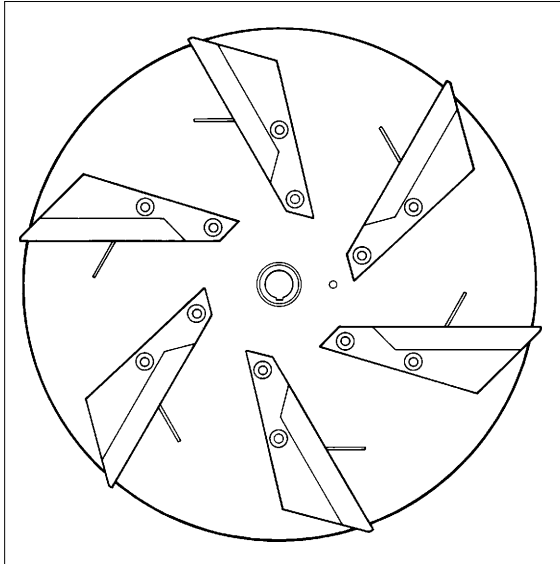
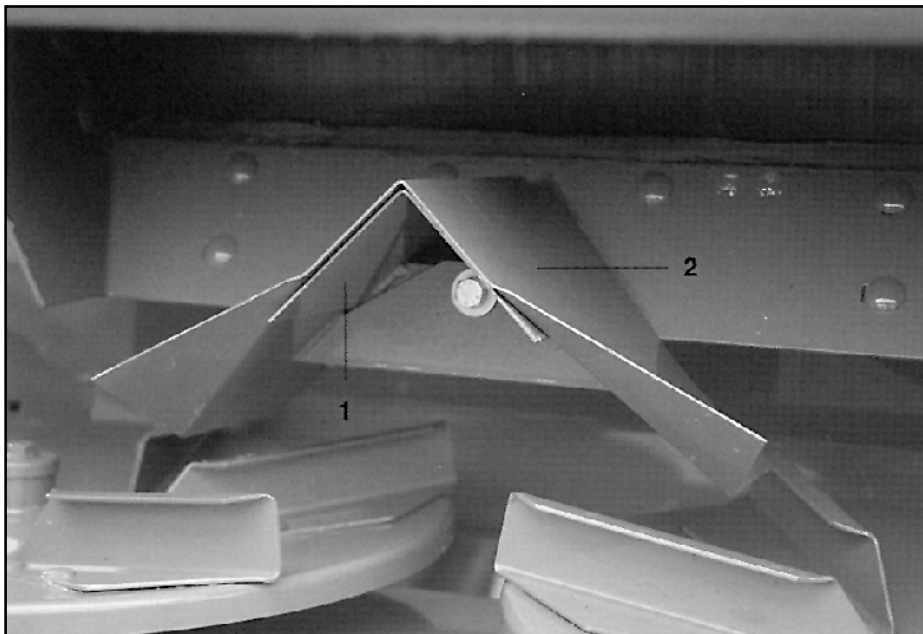

Fig. 7.3
Fig. 7.4
All bulk precision broadcasters are equipped with a fixed chute (fig. 7.4/1) used to spread damp fertiliser with ZG-B spreading discs (fig. 7.3).
If granular fertiliser is to be spread using ZG-B spreading discs (fig. 7.3), the additional chute (fig. 7.4/2) must be fitted to optimize the drop point of the fertiliser onto the spreading discs. This chute is simply bolted on top of the chute that is already mounted (fig. 7.4/1).
- Remove the additional chute (fig. 7.4/2, if applicable).